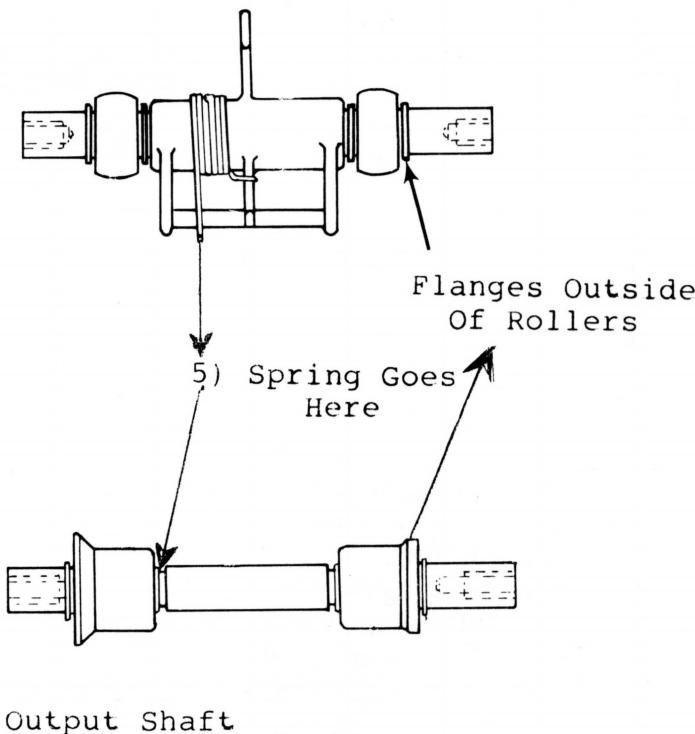

Figure 3
b) Remount Output Shaft, being sure to hook the Torsion Spring (Figure 3, number 5) to the Lower